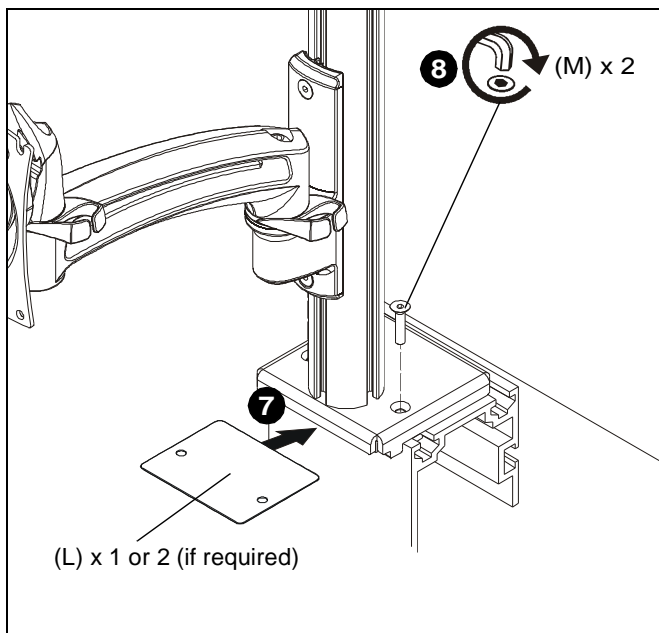

Figure 9
6. Remove two #10-32 x 7/8" flat head cap screws (M) holding mount base to channel plate (K).
7. Slide one or two shims (L) in between mount base and rail, lining up holes on shim(s) with holes on plate and rail. (See Figure 9)
8. Use two #10-32 x 7/8" flat head cap screws (M) to reinstall mount base to channel plate (K). (See Figure 9)